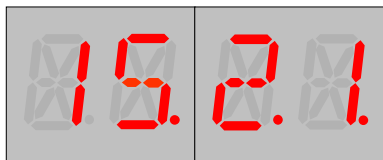

Figure 8d: Current Bit value.
- 4. Press SELECT. The Bit value is displayed. See **Figure 8d**.